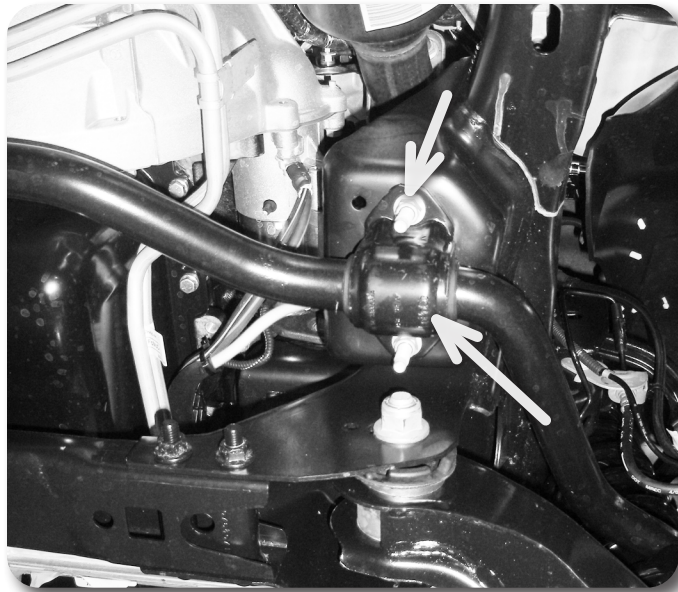

Figure 5B
11. Remove the four sway bar mounting nuts and remove the sway bar from the vehicle. **Figure 5B** Retain hardware